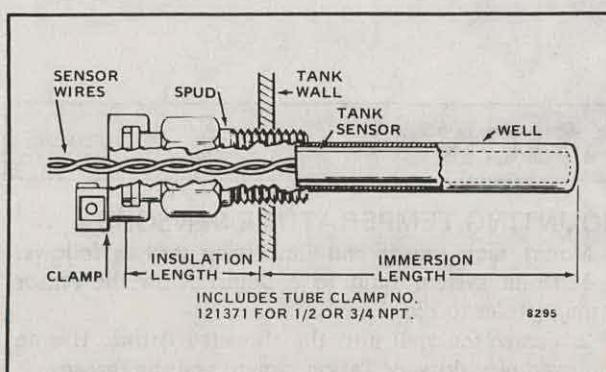

FIG. 1—TANK SENSOR INSERTED IN IMMERSION WELL.
See immersion well table and Fig. 1.
1. Drain system fluid to a point below the sensor fitting. (Refer to Fig. 1.)
1/2 inch conduit in the bottom of the controller case (Fig. 1).